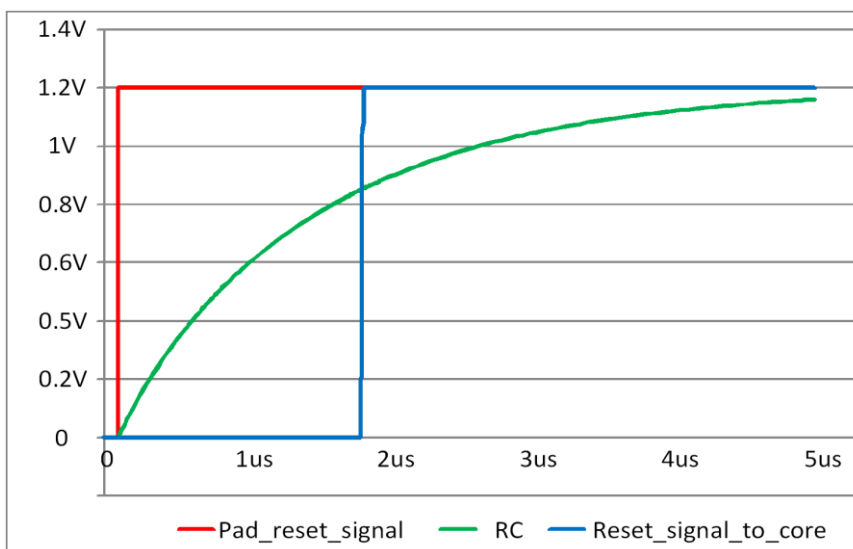

Figure 10: RST Pad Latency
The DA14585 High Temperature comprises an RST pad which is active high. It contains an RC filter for spikes suppression with 400 k Ω and 2.8 pF for the resistor and the capacitor respectively. It also contains a 25 k Ω pull-down resistor. This pad should be connected to ground if not needed by the application. The response is illustrated in the Figure 10 which displays the voltage (V) on the vertical axis and the time (μ s) on the horizontal axis: